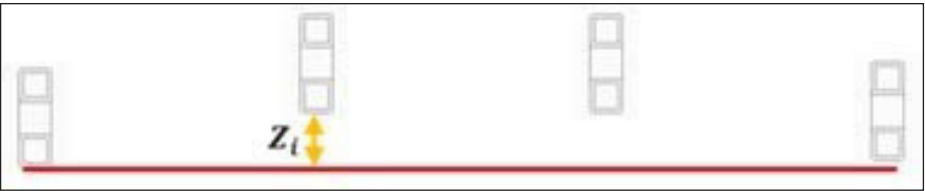

Figure 31: Flatness Verification (Top View)
- 3. Verify if the structure is curved by placing a horizontal reference in the vertical bar with the furthest Z displacement when compared to the other bars. Refer to **Figure 31**. If possible, adjust the display sections if the difference between any two  $Z_i$  measurements exceeds 3 mm.